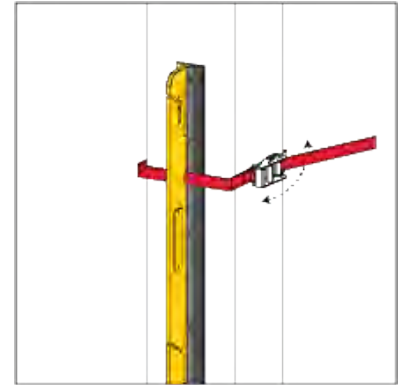

Figure 48
- ii) Secure the post to the column using the 2 red cinch straps. If installing the system outboard leave some slack initially so as to be able to rotate the post around the column to the outboard side. (Fig. 48)